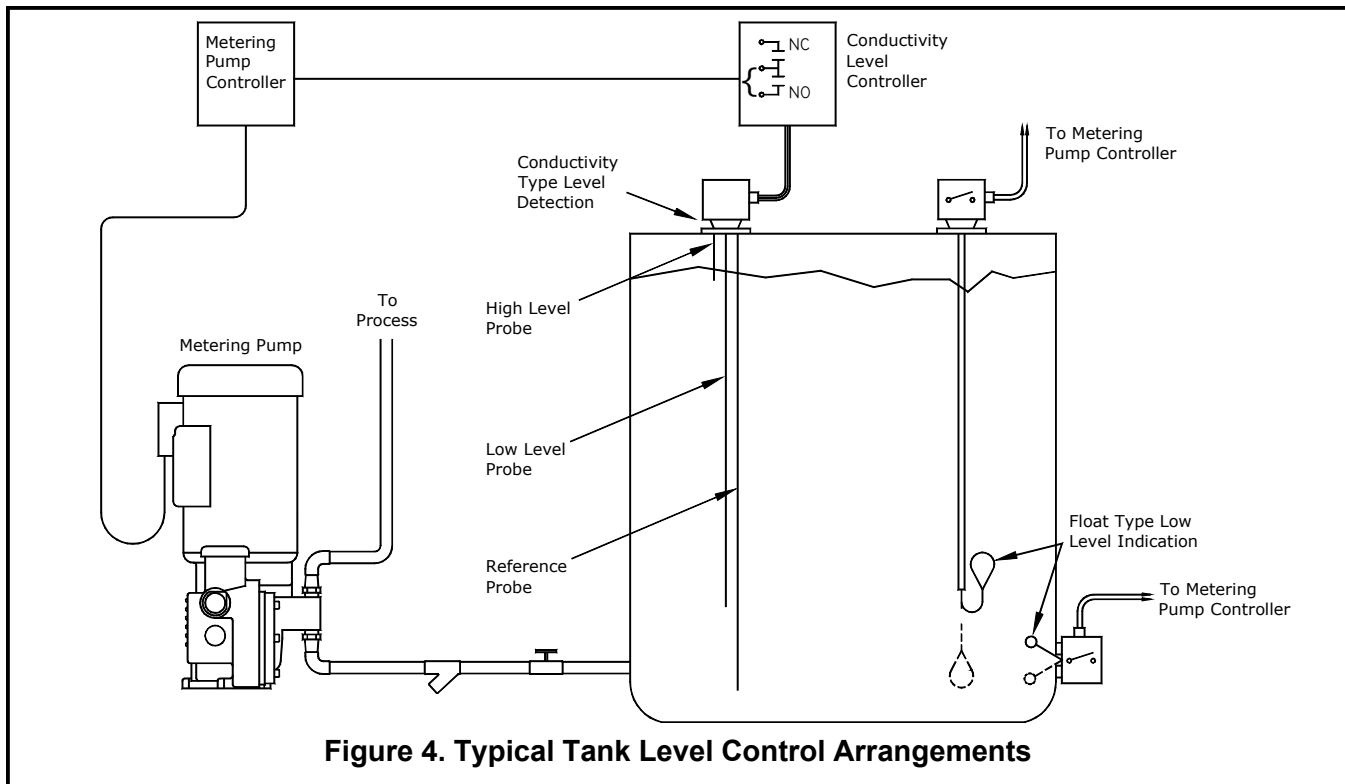

Figure 4. Typical Tank Level Control Arrangements
6. Provision should be made in the system to avoid the possibility of running the pump dry. Typically this is accomplished by wiring a low-level shut-off switch mounted in the supply tank to the pump motor starter as shown in Figure 4.